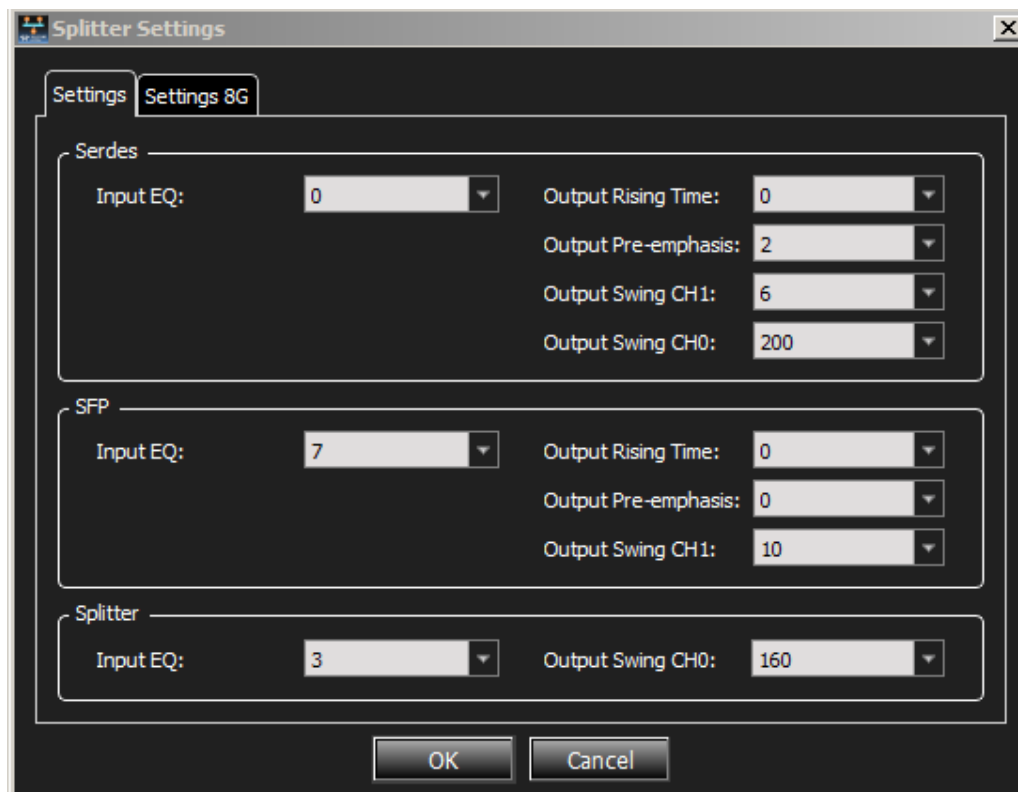
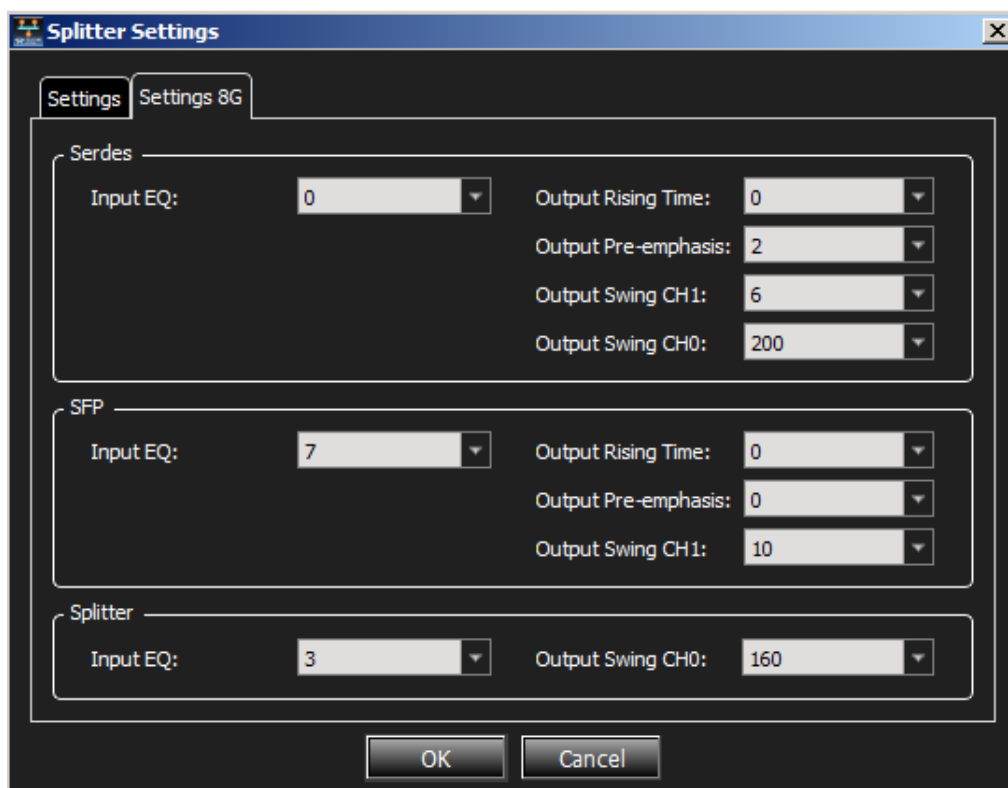

Figure 2.31: Splitter Settings dialog for FC device.
Figure 2.32: Splitter Settings dialog for FC device - 8G tab.
- ☐ Splitter: Selecting **Splitter** displays the Splitter Settings dialog. (See Figure 2.31 on page 57.) Enter the desired values for each of the parameters. Select the 8G tab (see Figure 2.32 on page 57) and enter the desired values for each of the parameters.